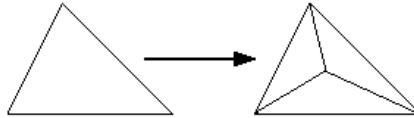

Figure 7.5.1: Refining a Triangular Boundary Face
*TGrid refines the marked faces by dividing them into three faces (see Figure 7.5.1).*
**Refine** refines the marked faces by dividing them into three faces, as shown in Figure 7.5.1.